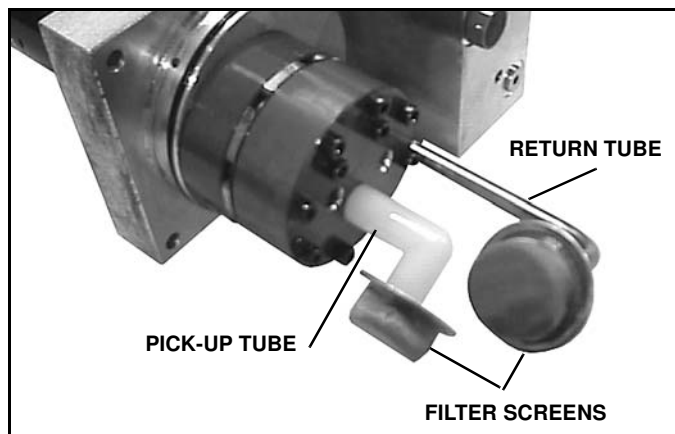

Figure 1-45
8. Loosen the band clamp, which holds the reservoir on the center section. Pull and twist the reservoir until it separates from the center section. Place a container under the power unit to catch spilled oil. Note the position of the reservoir oil pick-up tube and be sure the tube is in the same position when the filter is removed and installed. (See Figure 1-45).
10. Pull the filter screens off the return and suction tubes (hold it by the metal cover, not by the screen) and clean with a suitable solvent. Blow dry with low pressure compressed air from the inside. (See Figure 1-45).